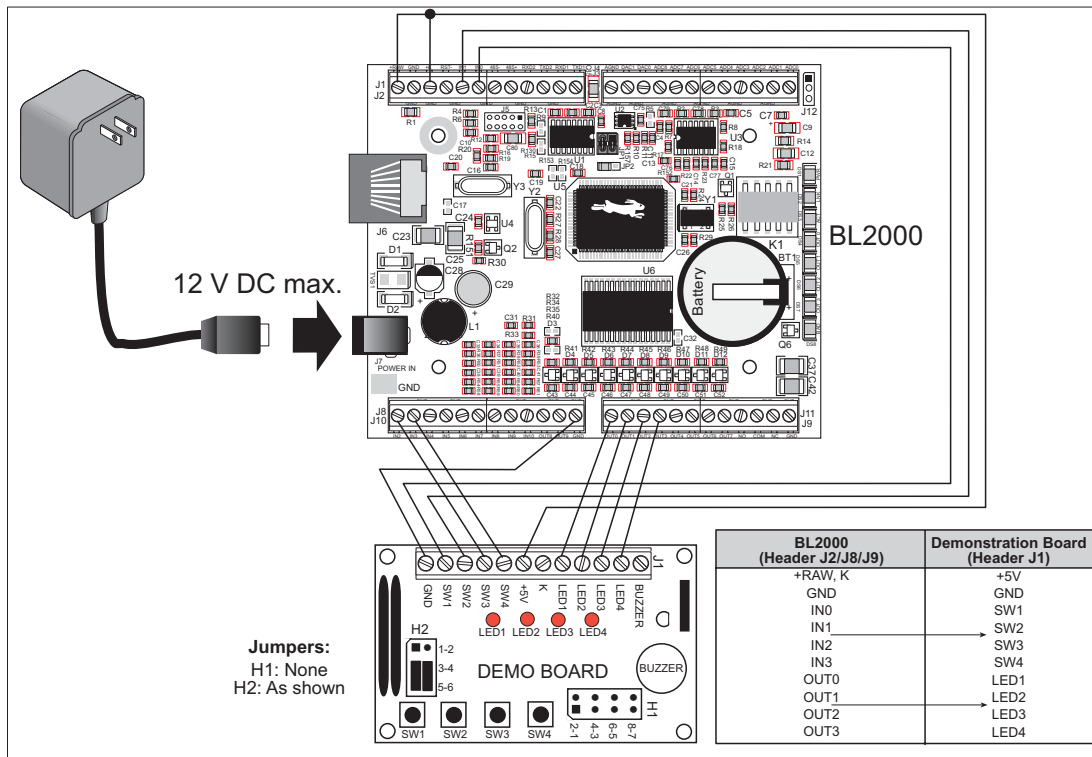

Figure D-1. General Digital Connections Between BL2000 and Demonstration Board
1. Use the wires included in the BL2000 Tool Kit to connect header J1 on the Demonstration Board to header J8 and J9 on the BL2000. The connections are shown in Figure D-1 for sample programs **DIGIN.C**, **DIGOUT.C**, and **SMTP.C**, and in Figure D-2 for sample program **ANADIGIN.C**.